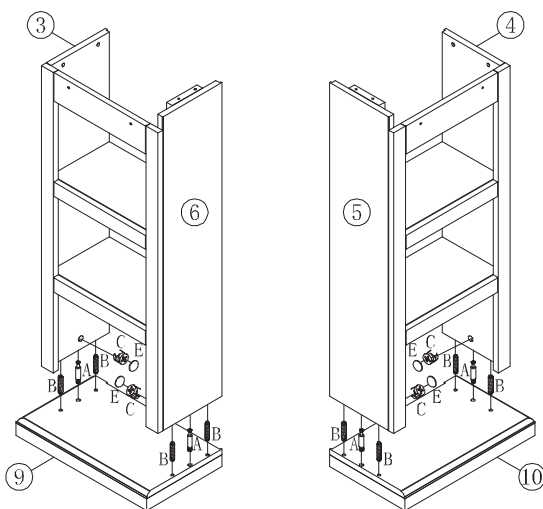

Figure 3
INSERT 4PCS CAM-BOLTS (A), 8PCS WOOD DOWELS (B) INTO PREDRILLED HOLES ON UPSIDE OF LEFT AND RIGHT BASES (9&10) AND FIT INTO CORRESPONDING HOLES ON BOTTOM EDGES OF LEFT AND RIGHT SIDES OF BOOKCASES (3,4,5,6). INSERT 4PCS CAM-LOCKS (C) INTO BIG HOLES ON INSIDES OF LEFT AND RIGHT SIDES OF BOOKCASE (3, 4, 5, 6) WITH SLOT FOR SCREWDRIVER FACING OUTWARD. ROTATE CAM-LOCKS (C) CLOCKWISE TO SECURE CAM-BOLTS (A). PUSH COVERS (E) INTO CAM-LOCKS (C). AS FIGURE 3 SHOWN.